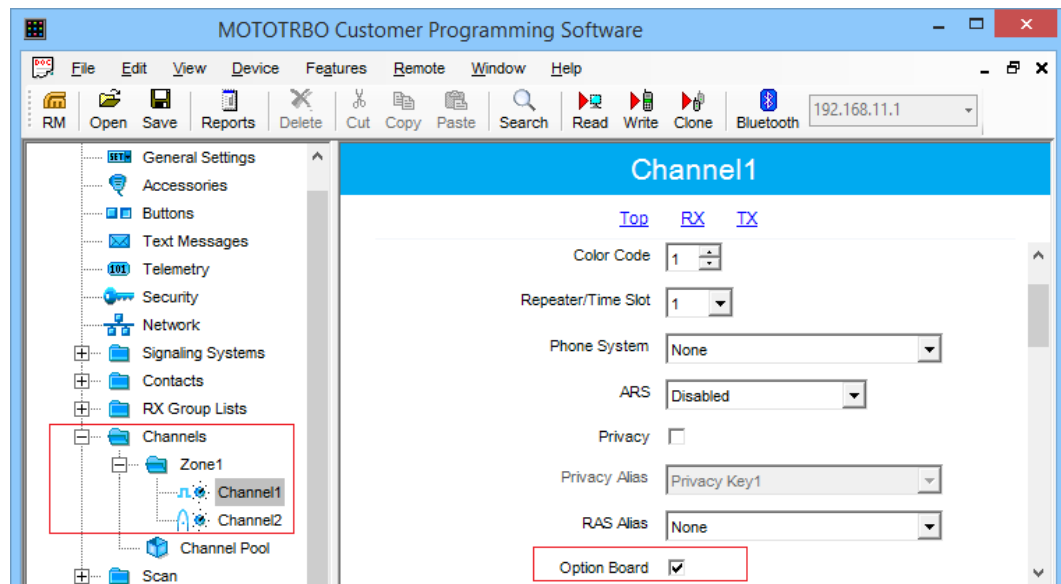

Figure 9: Enabling the option board capability
5. For all channels on which the radio should work through the option board, select **Option Board** in the right pane (Figure 9).